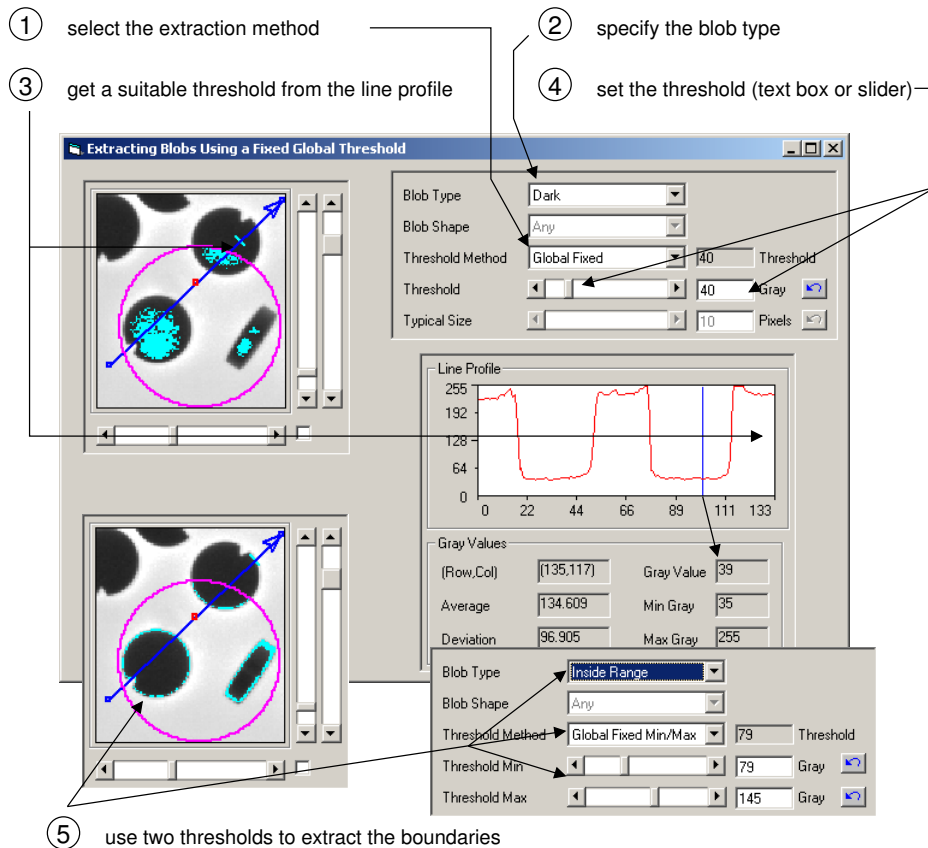

Figure 2.3: Using a fixed global threshold.
As described in chapter 1 on page 1, the simplest (and fastest) way to extract blobs is to classify pixels as belonging to a blob or to the background by comparing their gray value to a fixed global threshold. This method is well-suited, e.g., to the “black-and-white” images that stem from setups with a so-called *rear illumination*. In such a setup, objects are placed on a transparent surface between light source and camera; in the resulting image, the objects correspond to dark blobs on a light background (see e.g. figure 2.3). ActivBlobFinder also allows to use two thresholds.
The following steps are visualized in figure 2.3.
- ① Select 'Global Fixed' in the combo box Threshold Method.
- ② In the combo box Blob Type, select whether the blobs to be extracted are darker or lighter than the background; in our example, select 'Dark'.
- ③ As the default value for the threshold is suited to this image, the blobs corresponding to the pills in the image are already extracted, without any action on your part. To take a closer look at what's happening, create a line-shaped ROI for AVTLineProfile as described in the previous chapter and place it over some of the pills. As you can see now, the blobs have a gray value of about 30-40, while the background corresponds to gray values well over 200.
- ④ Now experiment with different thresholds by using the slider Threshold or by specifying a value in the text field beside it. In figure 2.3, the threshold is too low, therefore the pill boundaries are not extracted.
- ⑤ If you select 'Global Fixed Min/Max' in the combo box Threshold Method, you can work with two thresholds, a lower and upper one. In the combo box Blob Type you can now specify whether the gray values inside or outside the two thresholds correspond to the objects. Figure 2.3 shows how to extract the boundaries of the pills this way.